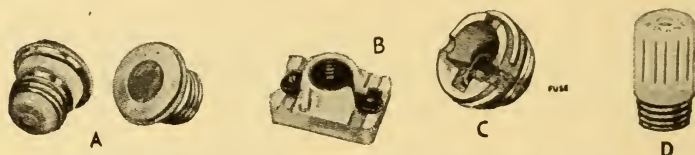

FIGURE 25
(78) Plug fuses such as are shown in Fig. 25 consist of a porcelain base having a brass collar on which is a thread that will fit into any standard plug fuse socket. The brass thread of B, Fig. 25, is attached to one binding post and the contact at center of bottom of B to the other.
If one wire of a circuit is cut and the ends attached to the binding posts of the socket shown at B, Fig. 25, and the brass thread and center contacts of the plug is
In practice the fuse wire of a plug fuse is attached between the center contact and the thread. The plug is then covered with a protective cap in which is a mica "window" through which the fuse wire may be examined. In Fig. 25, at A we have two views of a plug fuse. C is the plug with brass-mica cap removed. D is a special form of plug fuse to be used on amperages up to 60, the regular plug fuse having a maximum capacity of 35 amperes. Plug fuses may be used for any sort of work up to the limit of their capacity.